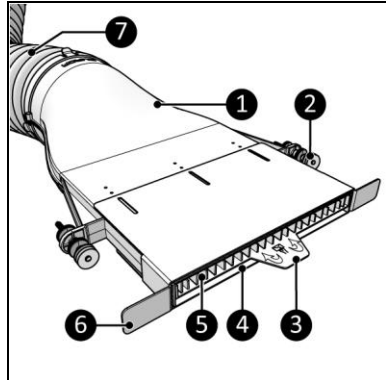

Figure 1
The Way-out (Figure 1) is an easy-to-use mailbox transit to which a portable air conditioning system can be installed. An air conditioning hose transports hot air through the Way-out and mailbox opening. The maximum opening of the mailbox slot (Figure 1, pos. 4) is 5 mm. A larger opening is not possible to ensure that an air conditioning system can discharge hot air in all weather conditions.
Always ensure that an unhindered flow of warm air is allowed out. Make sure that the air outlet (Figure 1, pos. 5) is never blocked. If the mailbox slot (Figure 1, pos. 4) is (partially) blocked by mail, remove the mail from the mailbox slot.